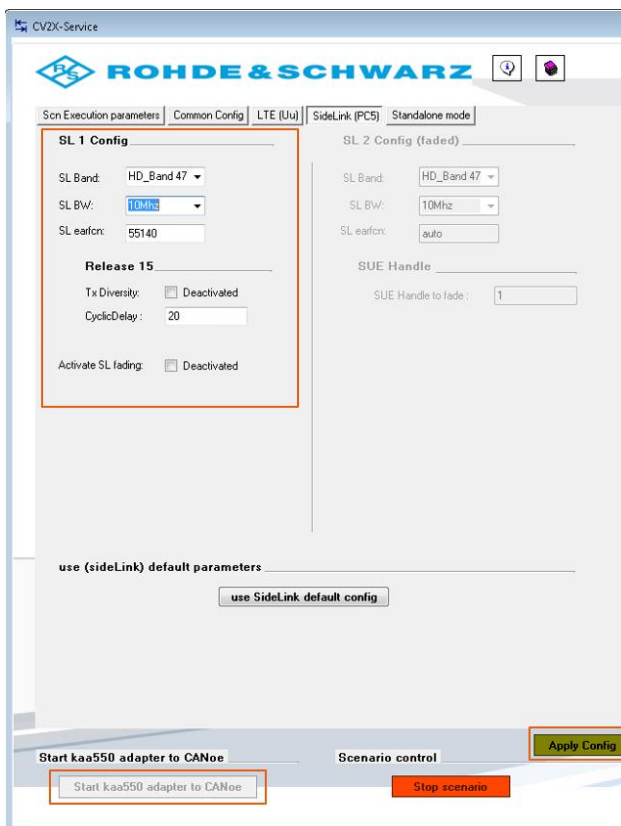

Figure 7: PC5 configuration
- After all the parameters are filled in, Apply Config and Connect CANoe (Figure 7)